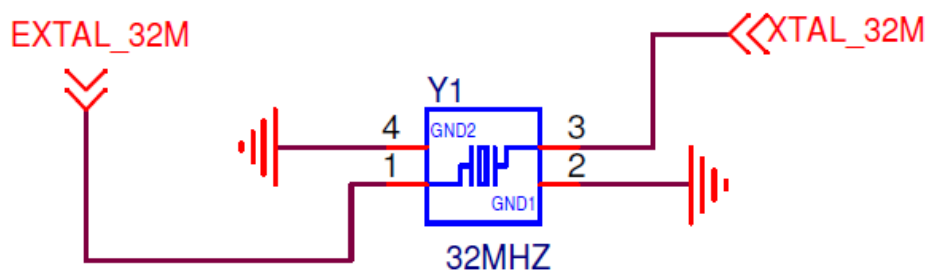

Figure 6. FRDM-KW41Z 32 MHz reference oscillator circuit
- Figure 6 shows the 32 MHz external crystal Y1. The IEEE Std. 802.15.4 requires the frequency to be accurate to less than ± 40 ppm